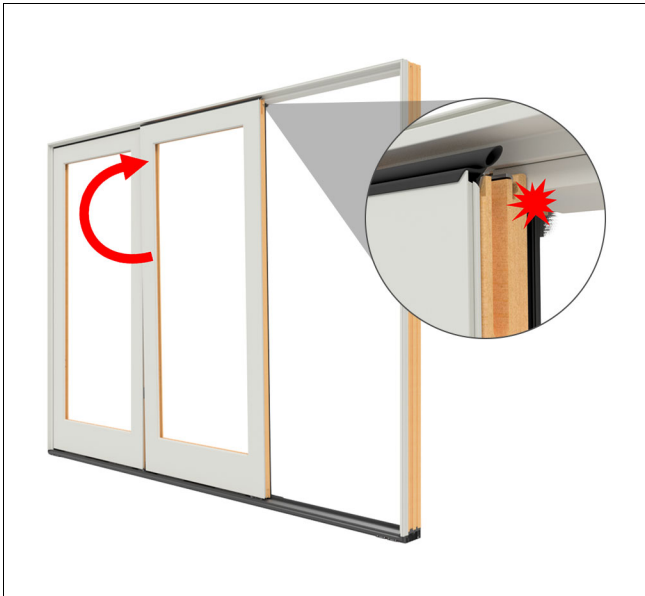
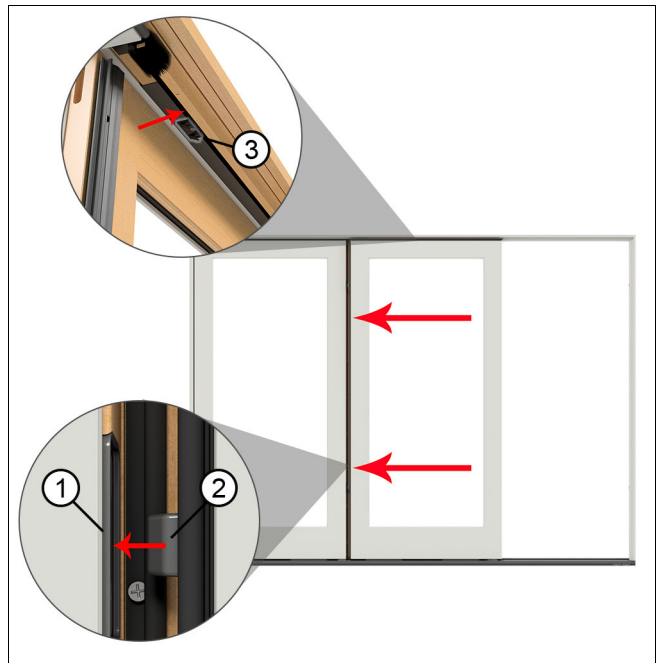

Figure 64
Figure 65
12. Set the stationary panel (with interlock) onto the sill stationary block. The block corresponds to a groove in the bottom of the panel. Tip the panel in until it hits the head jamb parting stop. Slide the panel over as the alignment bolts engage in the receivers from the first panel. See Figure 64 and Figure 65.